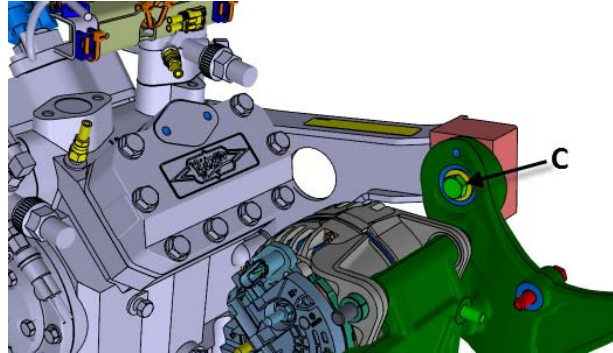
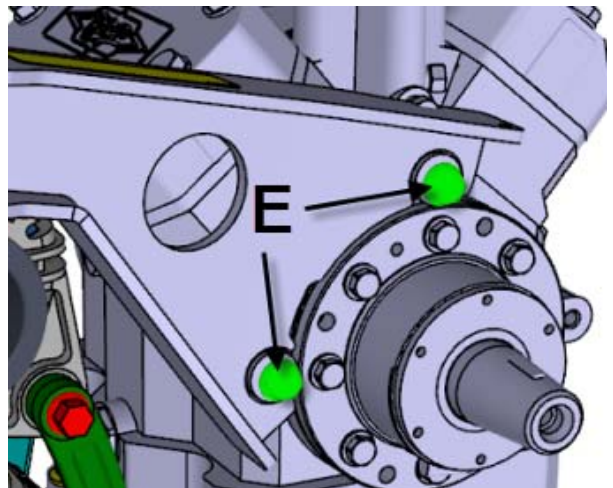

FIGURE 9
FIGURE 10
22. Tighten bolts (**C**) and bolt (**E**) (refer to FIGURE 9 & FIGURE 10 to identify bolts C & E).